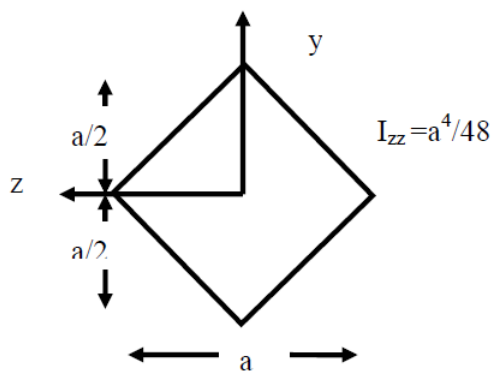

Fig. 9.1
- 9.1 One diagonal of a beam of square cross-section is kept horizontal. Obtain the shear stress distribution due to shear force V (Fig 9.1). Find the magnitude and the location of the, maximum shear stress.